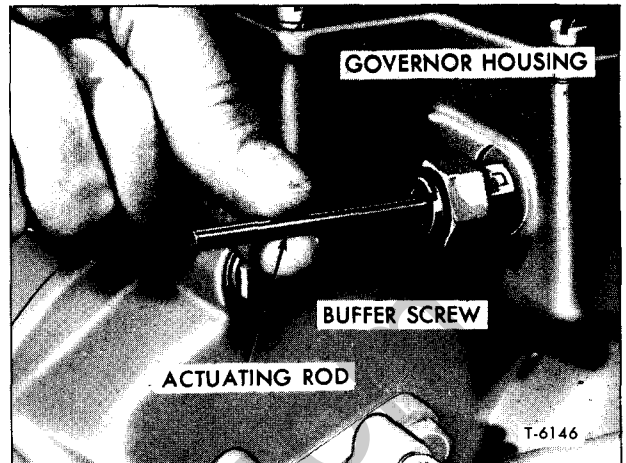

Figure 43—Removing or installing Switch Actuating Rod
4. Remove actuating rod (fig. 43) from special buffer screw.
1. Insert actuating rod (fig. 43), small end first, into buffer screw.